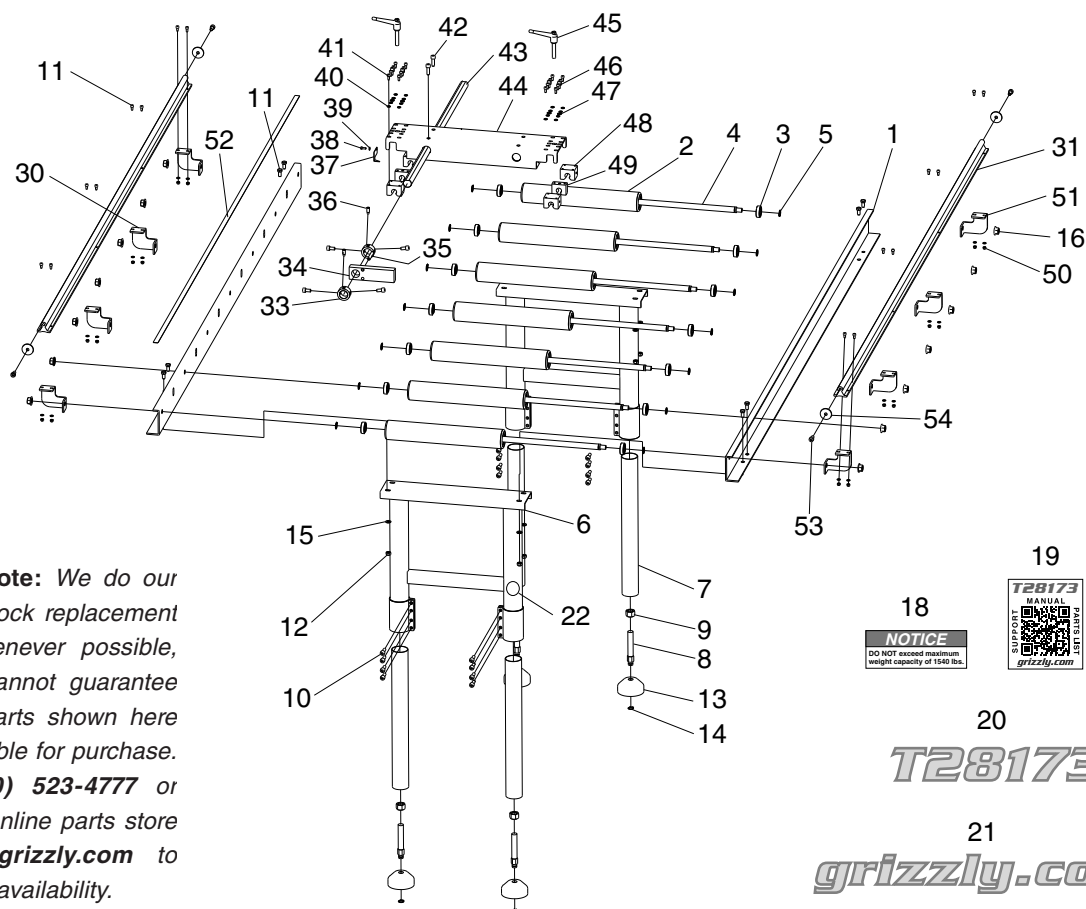

Figure 12. Slots for mounting T28378 to workbench or machine.
- Insert T28378 slotted mounting plate between leg assembly and roller table assembly, and re-install (4) M8-1.25 x 16 hex bolts, (4) M8-1.25 flange nuts, and (4) 8mm flat washers removed in **Step 1**.
- Align roller table fitted with T28378 against suitable workbench or machine. Adjust roller table height if necessary, then use slots to secure to machine (see **Figure 12**).